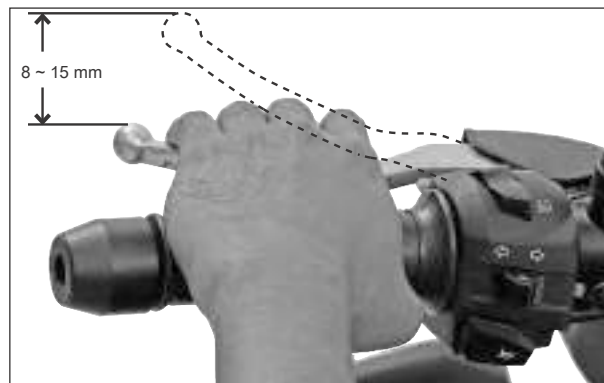

Fig. 2.68
- Measure the free play at the lever assembly clutch end as shown in the figure, before the clutch begins to disengage. (Fig. 2.68)